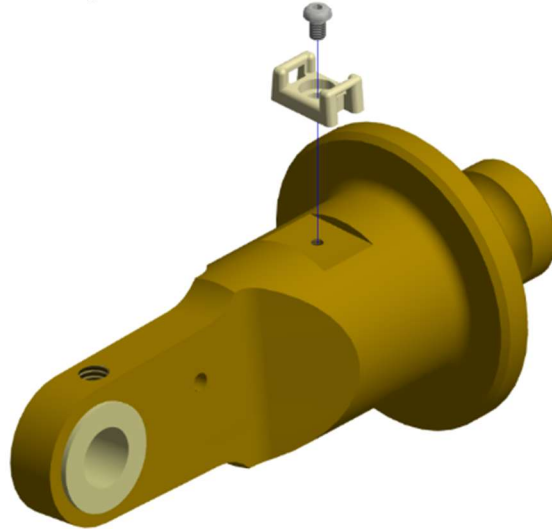

Figure 11-17. Remove the Cable Tie Mount (6002036)
11.2.13 Remove the Cable Tie Mount (6002036) from the Distal Upper Arm Tube Assembly (474-6115) by removing the one M2.5 X 0.45 X 4 LG. BHCS (Figure 11-17).